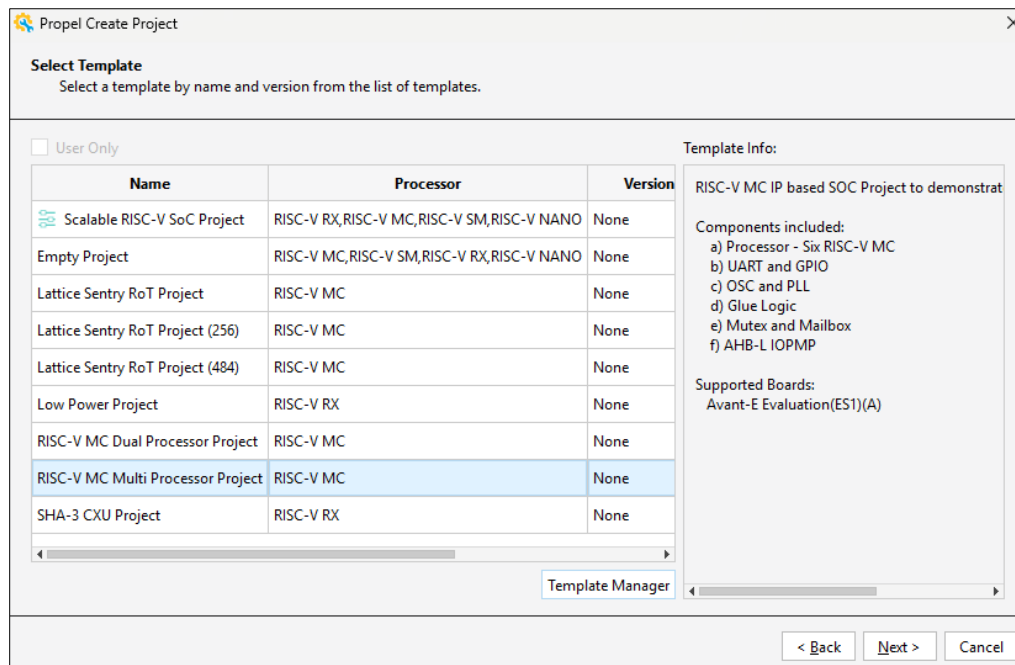

Figure 4.4. Select Template – RISC-V MC Multi-Processor Project
- b. Click **Next** to continue (Figure 4.4).